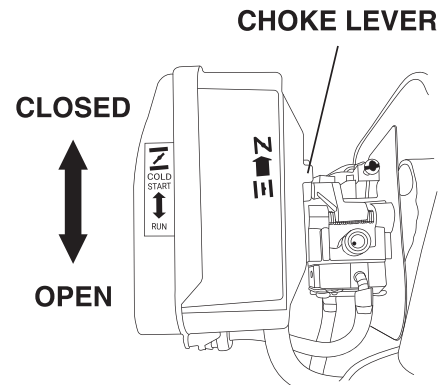

Figure 1
5.1.1 To start a cold engine, move the choke lever (Figure 1) to the CLOSED position. If restarting a warm engine leave the choke lever in the OPEN position.